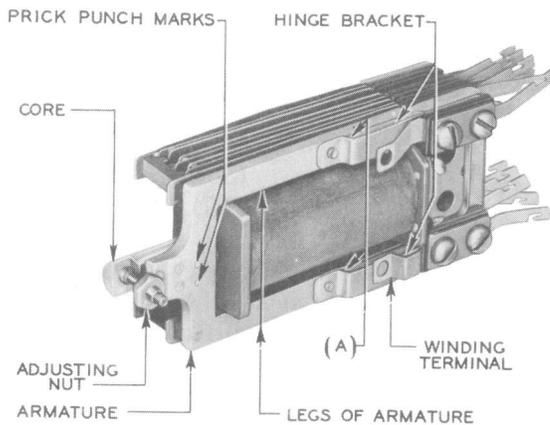

Fig. 7—UB-Type Relay—General View
2.11 Armature Position: Fig. 7(A)—Both legs of the armature shall bear against the hinge bracket with the relay electrically operated and shall also bear against the hinge bracket after the relay has released.